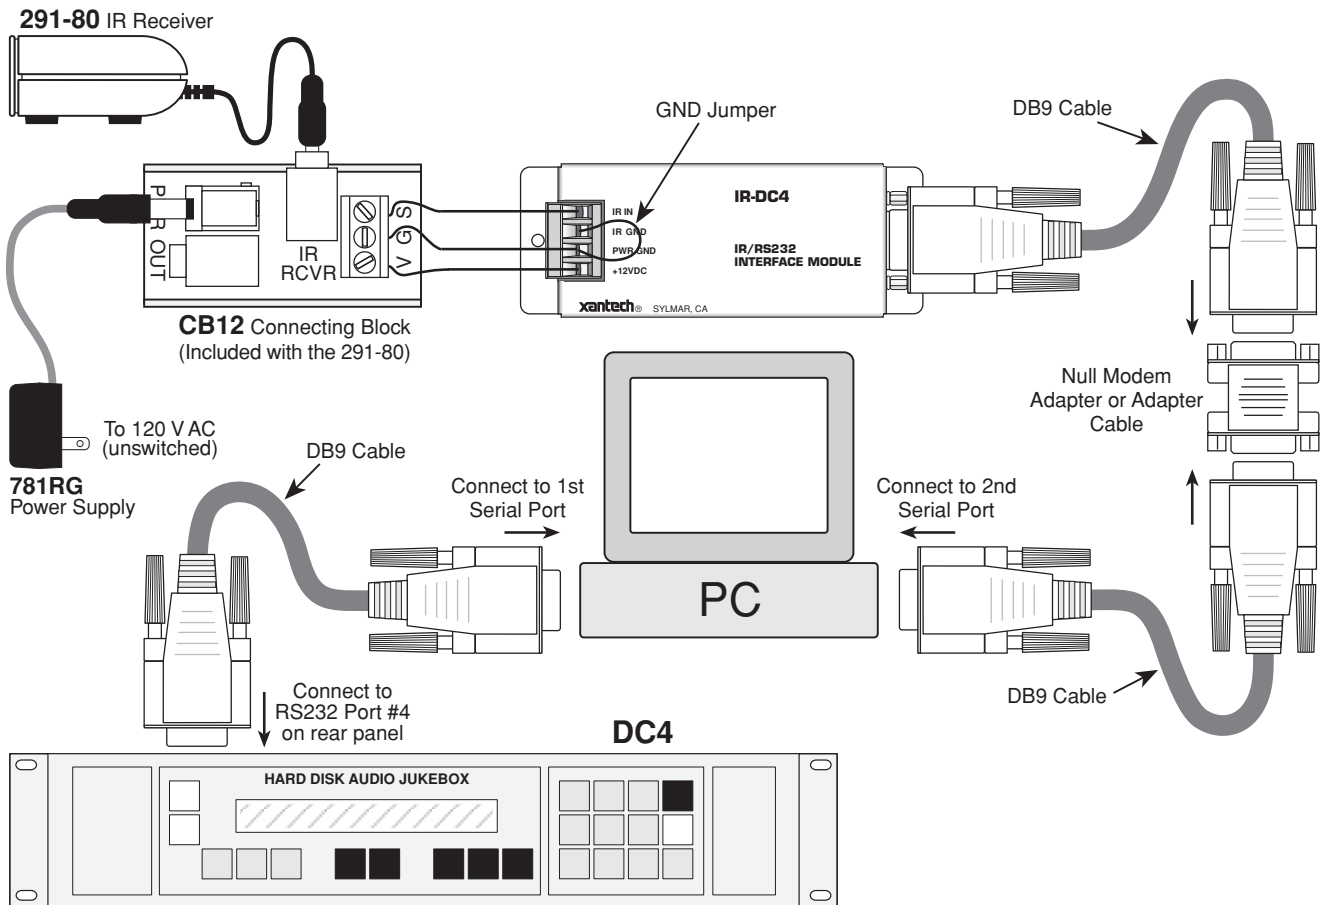

Fig. 6 Control of the DC4 using an IR-DC4 and a PC with Arrakis Music-Link Software
Fig. 6 illustrates how the IR-DC4 is connected to provide IR control of a Digilink 4 via a PC running the Arrakis Music-Link Software (Win 95/98). The following should be considered when working with this configuration:
1. Fig. 6 shows a single 291-80 IR Receiver as the IR control source. Multi-room, whole house systems with many keypads and IR receivers may also be used, connected to the IR-DC4, as shown in Fig. 5.